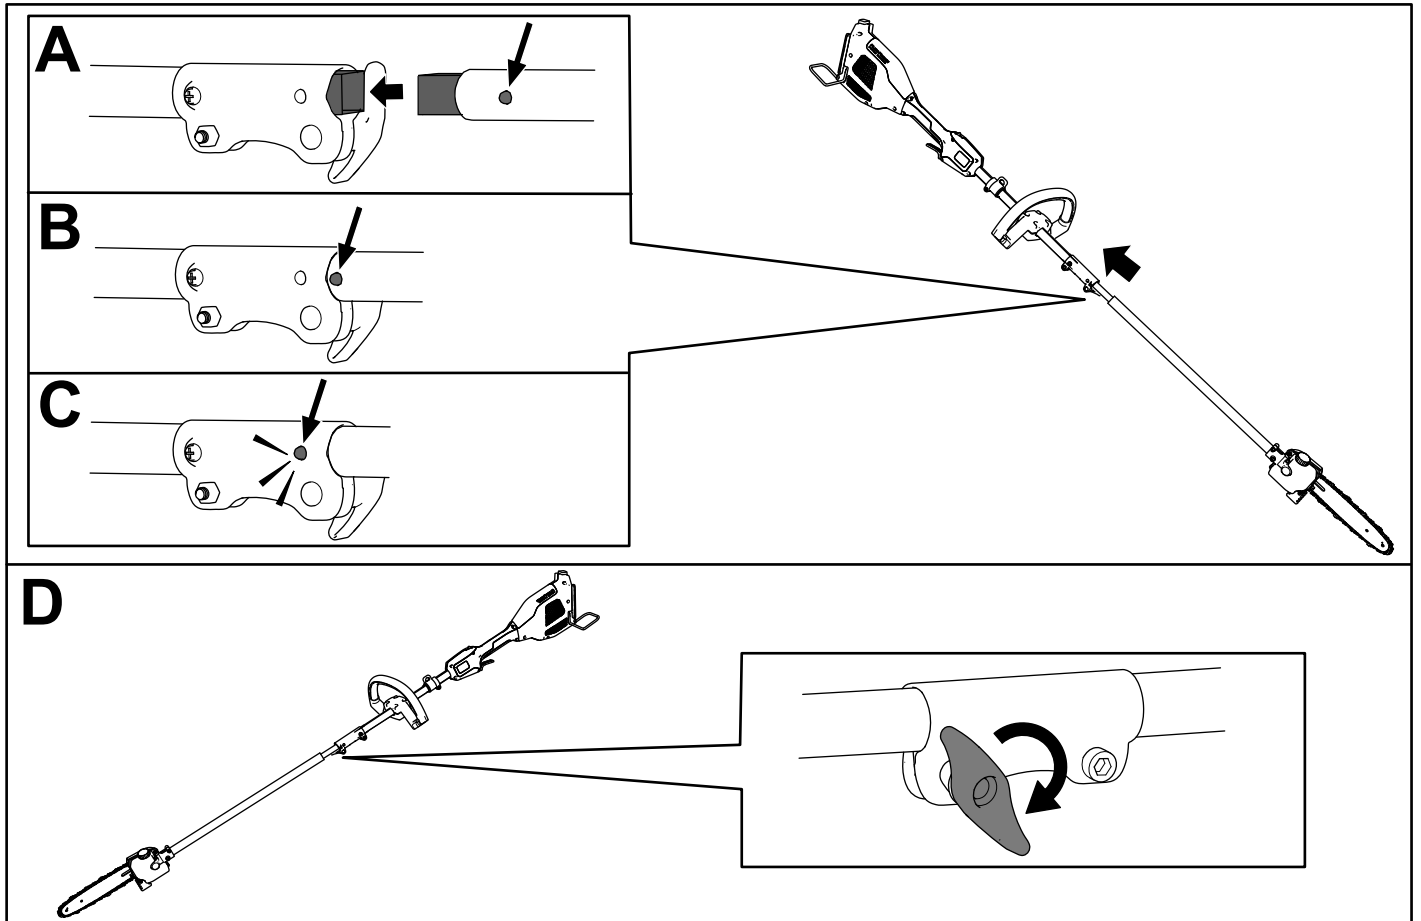

Figure 4
1. Install the square shaft of the attachment into the square shaft of the power head (A of Figure 4).
2. Align the locking button on the lower shaft with the slotted hole on the upper shaft and slide the 2 shafts together (B and C of Figure 4).
Note: The locking button clicks into the slotted hole when the shafts are secured (C of Figure 4).
3. Using the screw-handle, tighten the screw on the shaft connector until it is secure (D of Figure 4).
2. Loosen the screw-handle on the shaft connector (Figure 4).
3. Press the locking button down while pulling the 2 shafts apart (Figure 4).